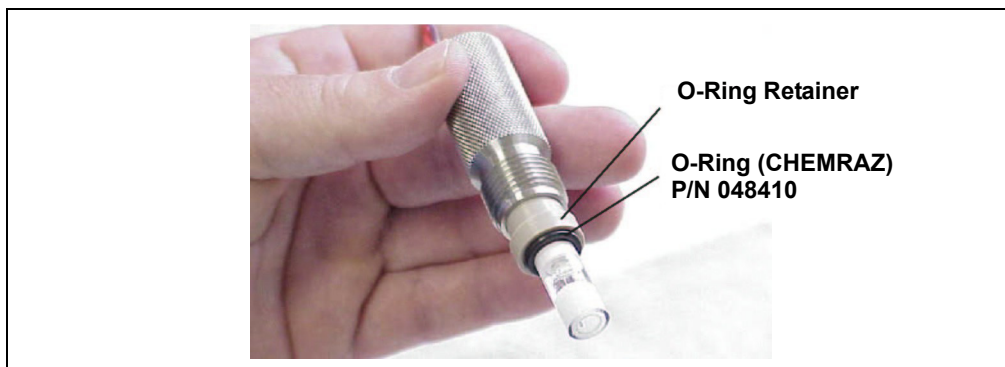

Figure 5-3. Reference Electrode O-Ring
7. Slide the new O-ring onto the electrode (see Figure 5-3).